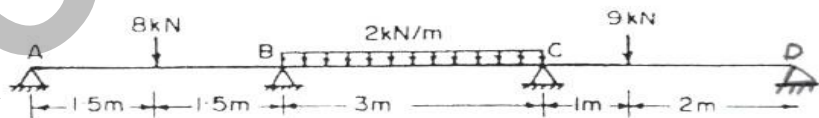

Figure -1
4. Analyze the continuous beam shown in Figure-1 by Three Moment Equation (14M)